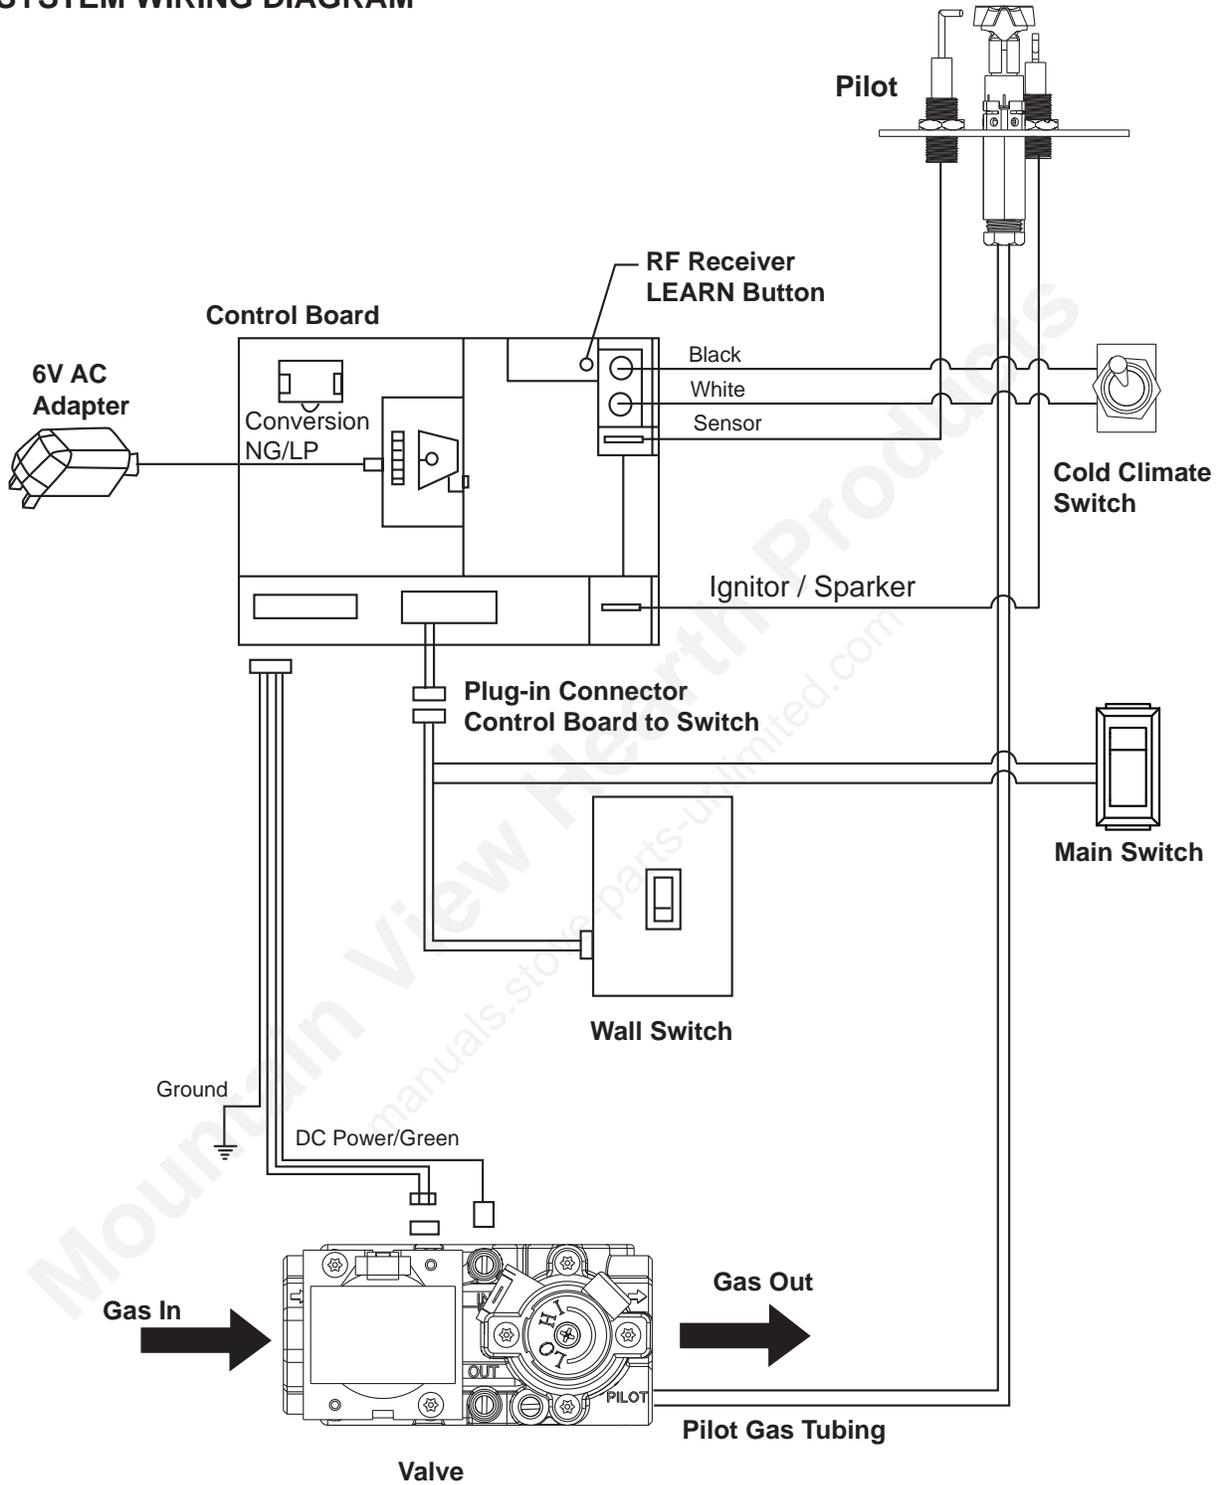

Figure 60 –
The wall switch wire connection is located off the wire harness coming out of the IPI Control Board. The label is wired 'wall switch'. Connect the low voltage switch wires to the two (2) terminals labeled "wall switch" from the control board. Run wire to desired location on wall. Up to 50 feet of 18 gauge wire may be used if necessary. Attach wires to wall switch. Mount the wall switch in a junction box and screw on cover. *Figure 60*